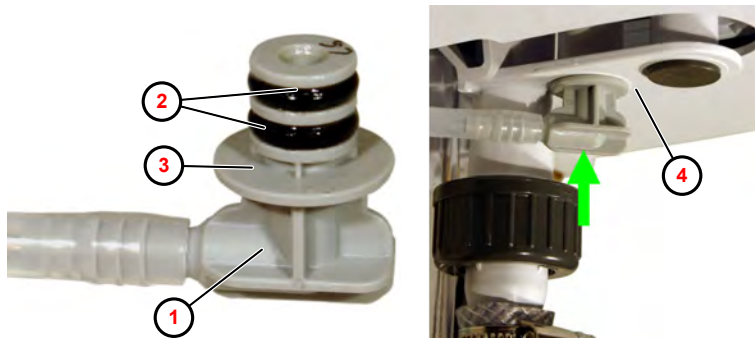

Fig. 17: Removing the connection adapter
1. ➤ Remove O-rings (Fig. 17 , ②) from the connection adapter ① .
2. ➤ Clean the O-ring ③ seat by hand.
5. ➤ Insert the connection adapter as far as it will go until it is flush with the funnel housing ④ .